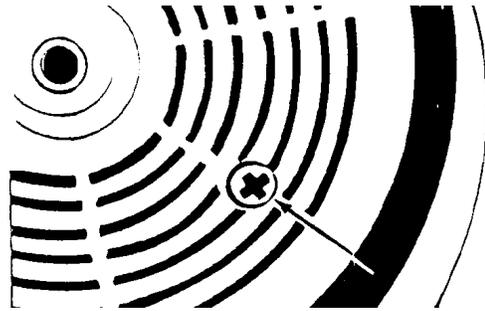

Figure 10
- 3 Align both holes with one of the three screws in the gear housing cover. Remove the screw from the gear housing cover. See Figure 10.